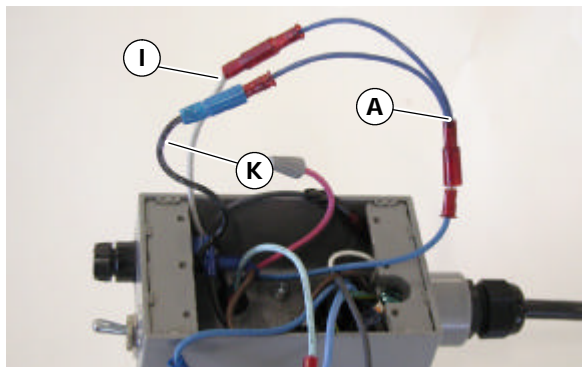

Figure 20
**13b.** Connect male ends of wiring harness (A of Figure 20) to gray wire (I) and black wire (K) (from red).